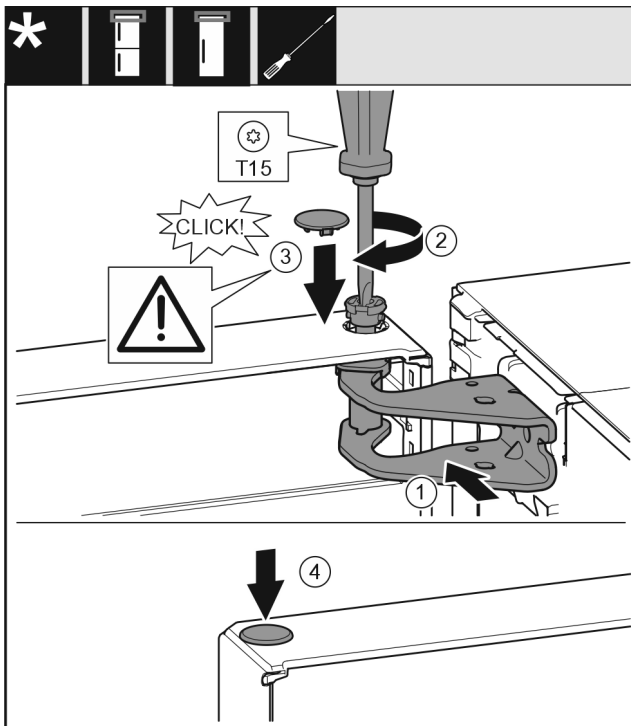

Fig. 19
- ▶ Align the top of the door with opening in the bearing bracket. Fig. 19 (1)
- ▶ Insert the bolt and tighten with a T15 screwdriver. Fig. 19 (2)
- ▶ Fit the protective cover to protect the door: Insert the protective cover and check that it is flush to the door. If not, insert the bolt fully. Fig. 19 (3)
- ▶ Insert the plugs. Fig. 19 (4)